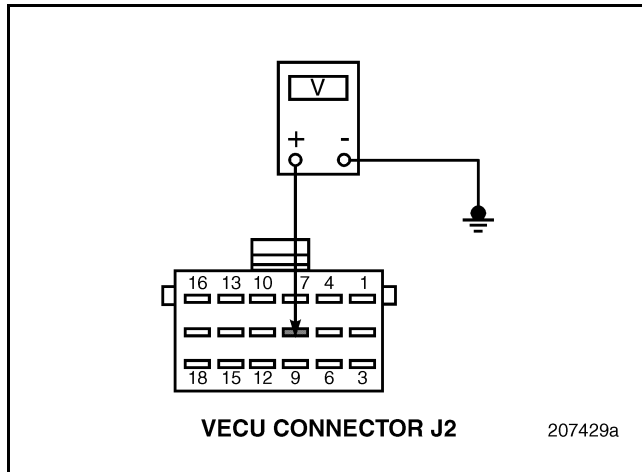

Figure 346
2. Disconnect the Exhaust Temperature (ET) Sensor connector.
5. Measure the voltage between VECU connector J2 pin 8 and a good ground (see Figure 346).